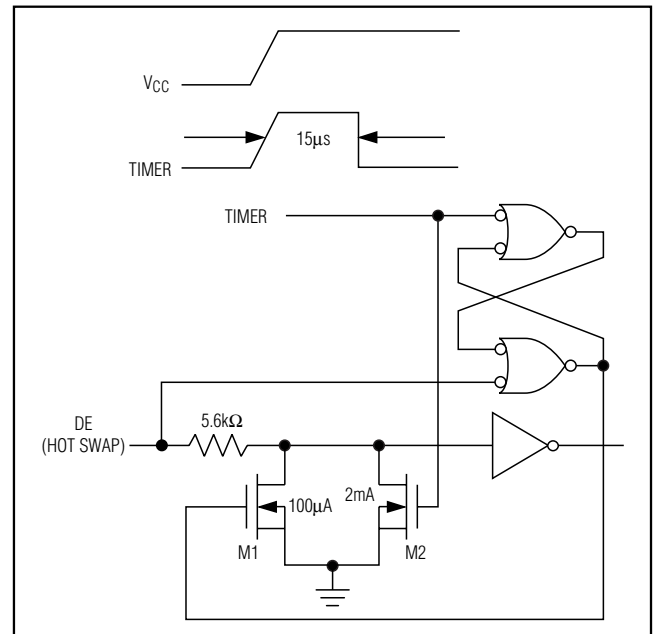

Figure 10. Simplified Structure of the Driver Enable Pin (DE)
At the driver-enable input (DE), there are two NMOS devices, M1 and M2 (Figure 10). When VCC ramps from zero, an internal 15μs timer turns on M2 and sets the SR latch, which also turns on M1. Transistors M2, a 2mA current sink, and M1, a 100μA current sink, pull DE to GND through a 5.6kΩ resistor. M2 pulls DE to the disabled state against an external parasitic capacitance up to 100pF that may drive DE high. After 15μs, the timer deactivates M2 while M1 remains on, holding DE low against tri-state leakage currents that may drive DE high. M1 remains on until an external current source overcomes the required input current. At this time, the SR latch resets M1 and turns off. When M1 turns off, DE reverts to a standard, high-impedance CMOS input. Whenever VCC drops below 1V, the input is reset.